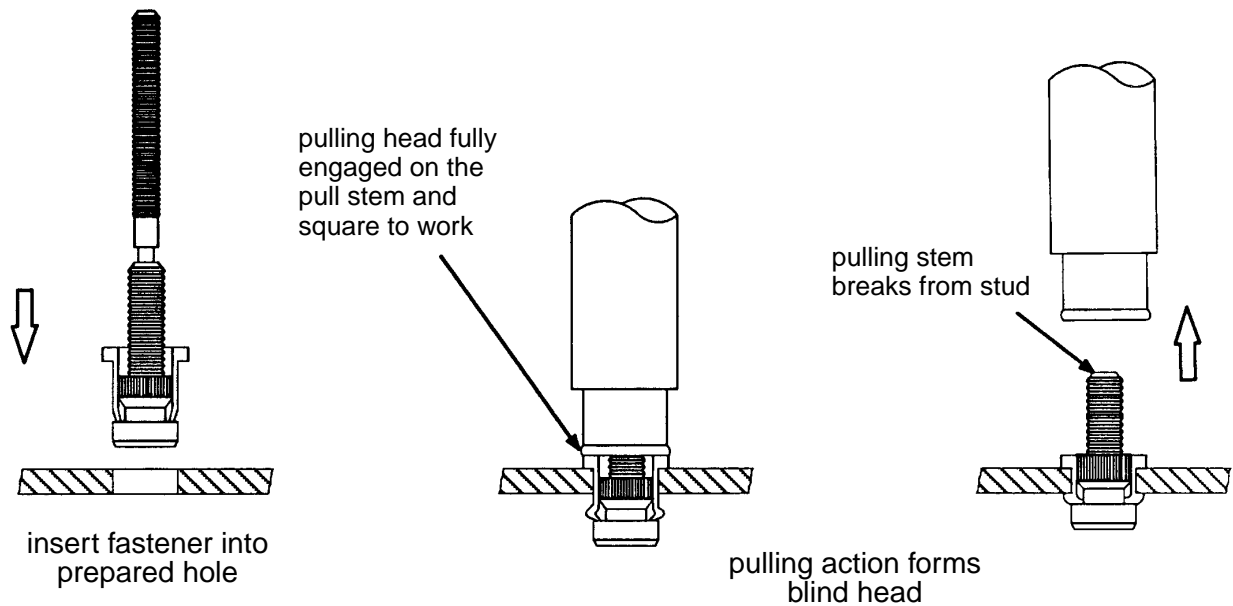

Figure 7 - Fastener Installation
5.4.1 Install fasteners as follows (see Figure 7):